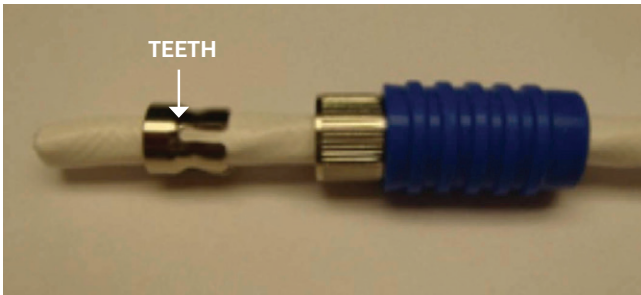

Figure 8: Sliding components onto the cable
1. With the blue rubber end closest to the cable, slide the backshell onto the socket end of the cable. Then, with the teeth closest to the cable, slide the inner ring onto the socket end of the cable (Figure 8). Push both components up the cable, and tape them out of the way.